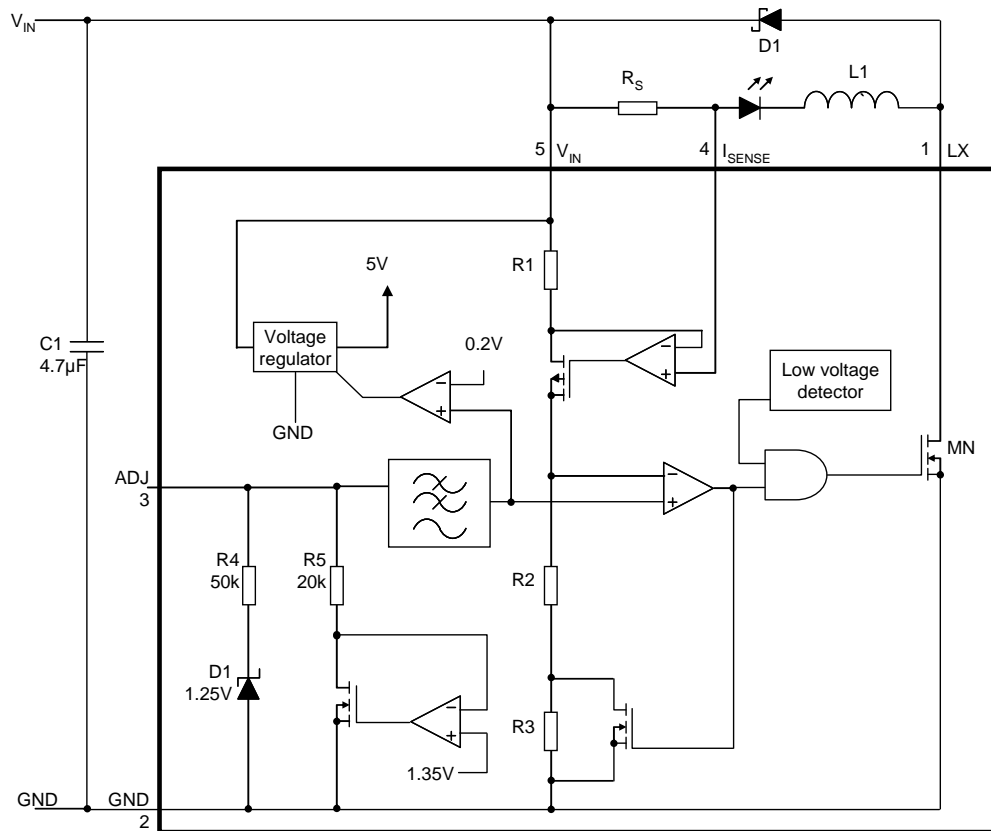
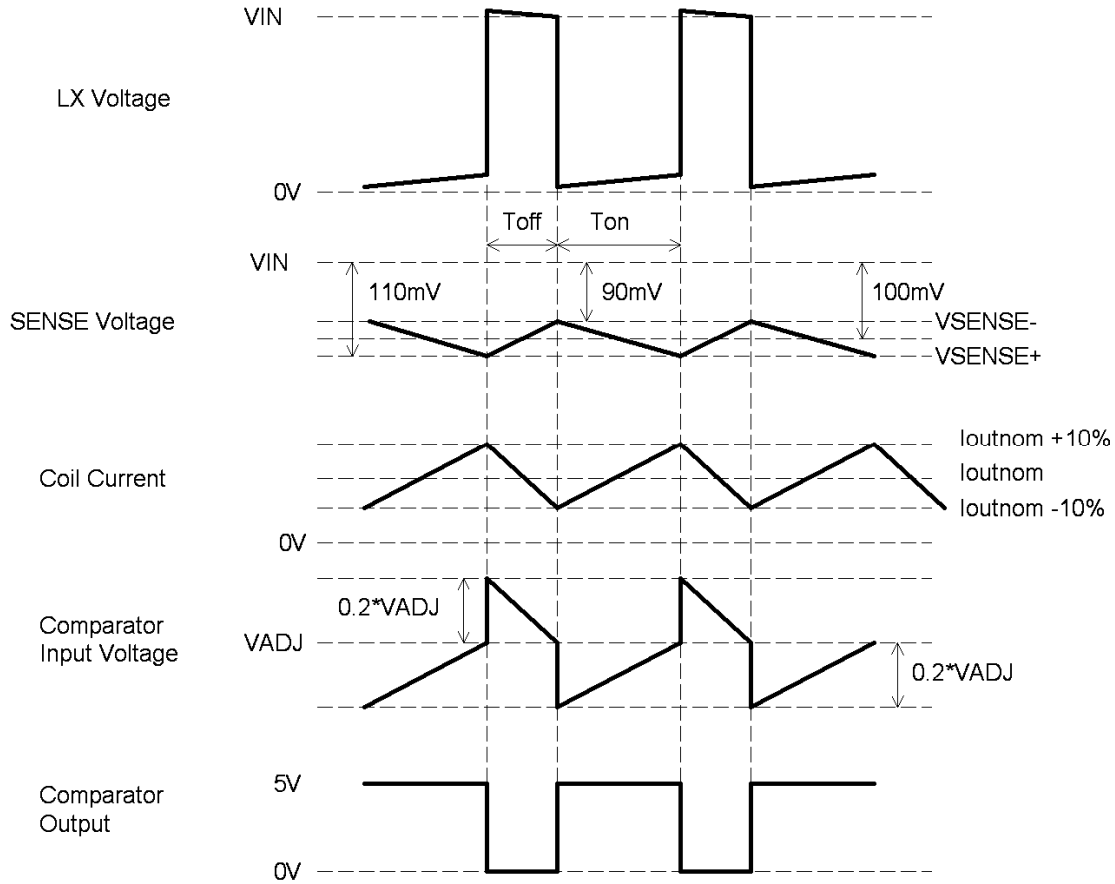

Figure 1. Block Diagram
Figure 2. Theoretical Operating Waveforms
**Device operation** (refer to Figure 1 - Block diagram and Figure 2 Operating waveforms)